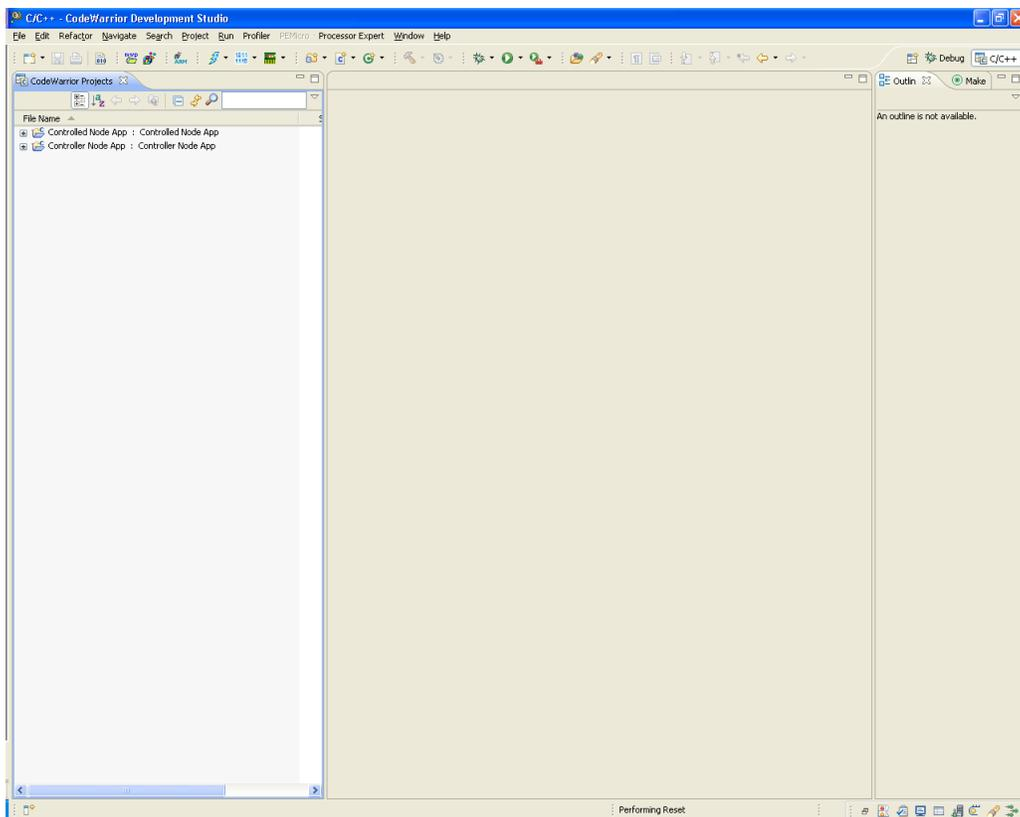

Figure 2-19. CodeWarrior Controller Node App Project Window
7. CodeWarrior opens the project files as shown in Figure 2-19.